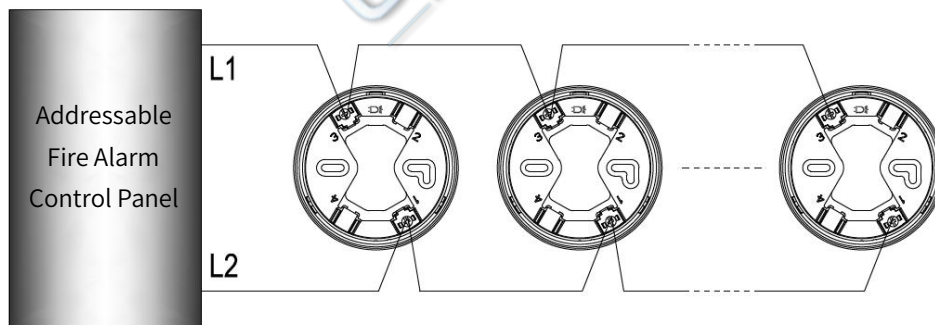

Fig. 3
5.2 Wiring method: The detector can connect to the compatible fire alarm control system through the two-wire bus, and the non-polarity connection is adopted. The L1 and L2 of the two-wire bus should connect to the terminal 1 and 3 of the matched mounting base. Fig. 3 shows a schematic diagram of connecting multiple detectors and control panel.